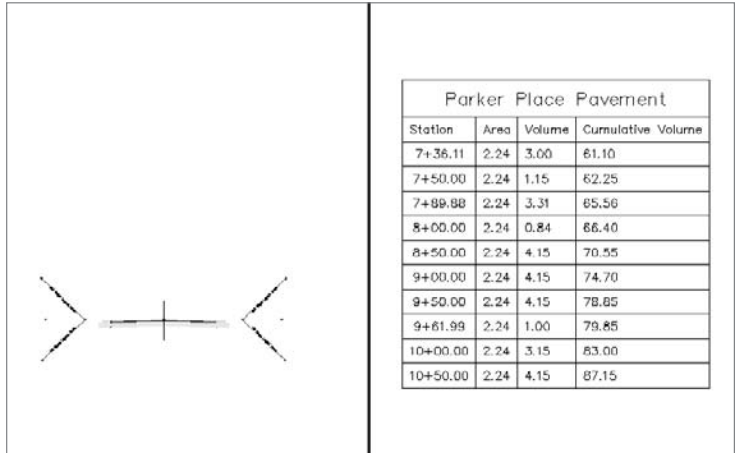

Figure 11.33
- Click in the right viewport to activate it. Zoom in on the road assembly. Your screen should look similar to Figure 11.33.